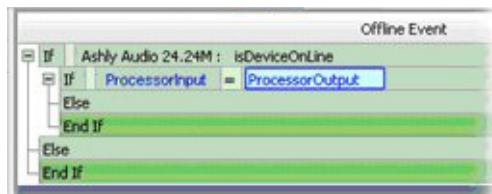

FIG. 257 Creating an IF Conditional with a Variable - Entering a Literal Value
- You can enter a literal value by double-clicking the literal, or you can drag-and-drop another variable on top of the literal to compare two variables (FIG. 257):